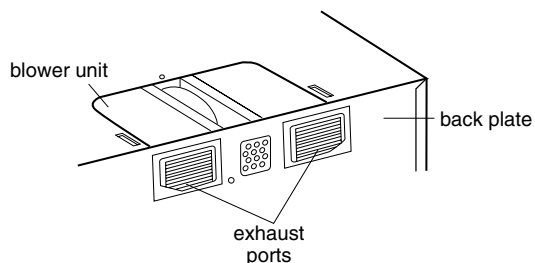

Figure 15
5. Place blower unit back into cabinet. Check that the exhaust ports face towards the rear of the cabinet. See Figure 15.